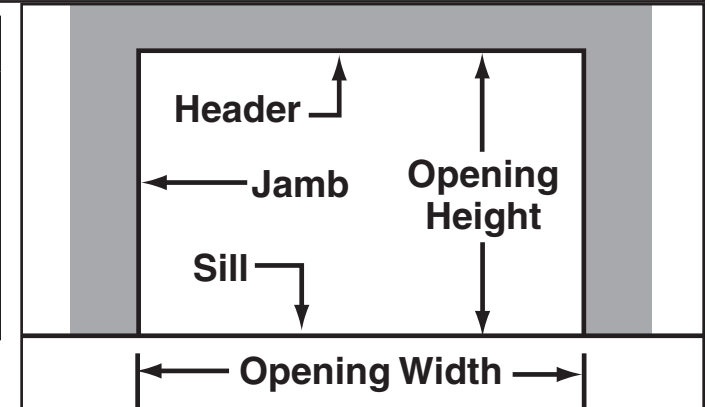

Fig 3
- Does the wall opening shown in FIG 3 match the Opening Width and Height shown on the "Door Installation Data" sheet?